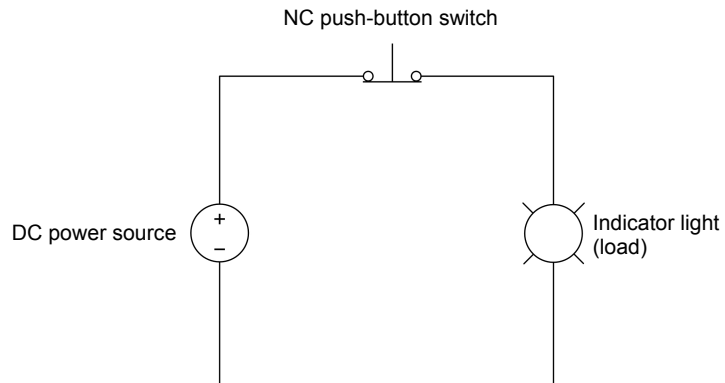

Figure 31. DC power source connected to an indicator light and an NC push-button switch (circuit diagram).
18. Explain briefly how the circuit in Figure 31 operates just as the circuit for the light in a refrigerator.
Just as in the circuit of Figure 31, when the door of a refrigerator is open, the NC push-button switch for the door is released. The resulting circuit is closed and therefore the refrigerator light is on. Conversely, when the door of the refrigerator is closed, the NC push-button switch for the door is pressed. The resulting circuit is open and therefore the refrigerator light is off.